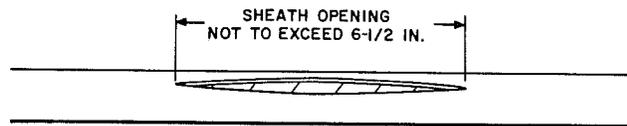

Fig. 3—Cable Sheath Opening
3.01 For repair purposes: Minor repairs which can be made in a sheath opening not exceeding 6-1/2 inches can be closed with these splice cases. Make the sheath opening as shown in Fig. 3 through 6.
(1) Make the initial cut to get at the core (Fig. 3).